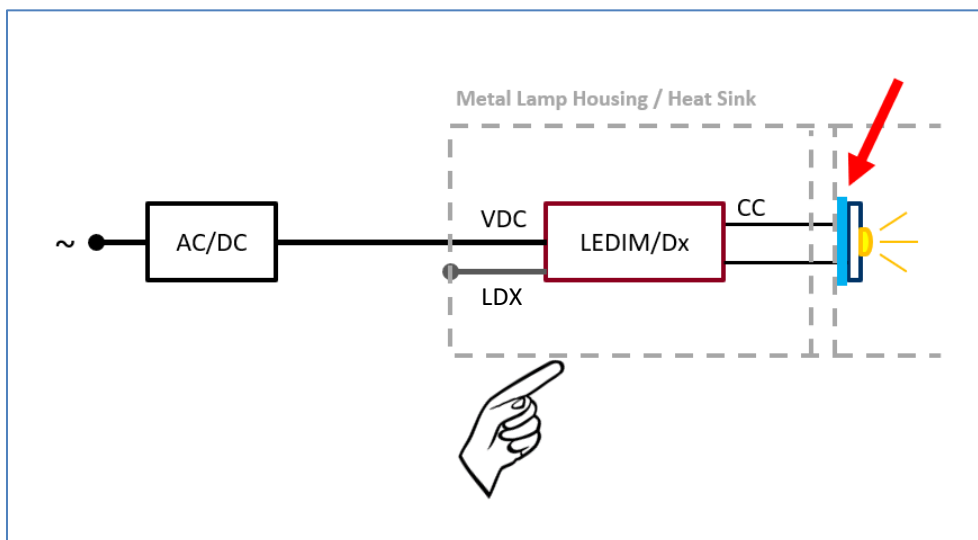

Figure 4: Critical Condition: Heat Sink connected to lamp housing with Alu PCB
- When the LED engine’s PCB is made of Aluminum, it might be a critical condition to have the engine’s heat sink electrically connected to the touch surface (e.g. the lamp housing). The parasitic capacity of the LED engine can cause malfunctions in touch dimming here. Please use thermal conducting pads³ instead of thermal paste (blue pad in Figure 4) to avoid.